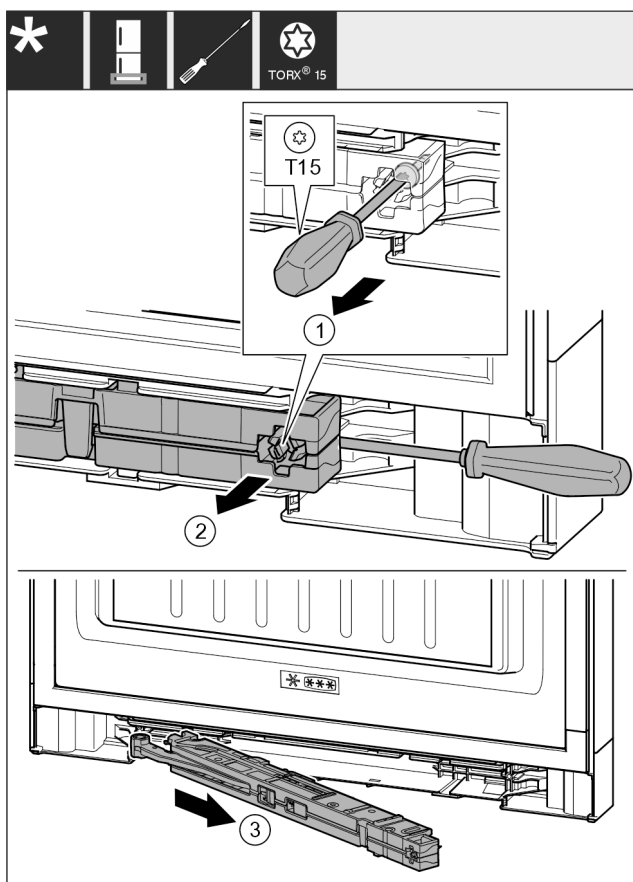

Fig. 19
- Use screwdriver to loosen the screw Fig. 19 (1) on the closing damper unit by 14 mm.
- Lever the closing damper unit Fig. 19 (2) forwards on the handle side using a screwdriver.
- Pull out the closing damper unit Fig. 19 (3).